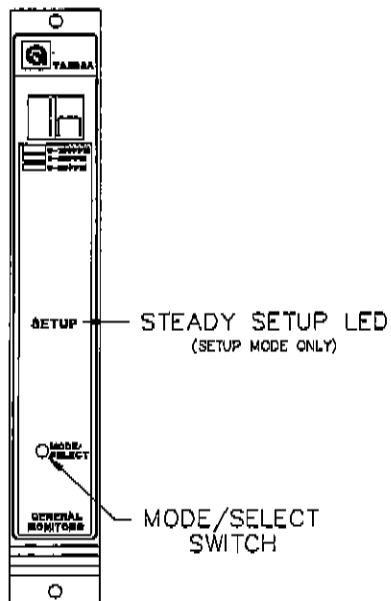

Figure 15
- This option applies to the Setup Mode only: If the password option is disabled, or after the correct password has been entered, the display will indicate **In** for five seconds (figure 15). Pressing the Mode/Select switch while **In** is displayed, will cause the unit to enter the Inhibit mode by inhibiting the alarm outputs. After the Model TA202A has entered the Inhibit mode, pressing the Mode/Select switch causes the unit to return to normal operation (see section 5.3). If it is desired to enter the Setup Mode, do not press the Mode/Select switch for the five seconds that **In** is displayed.
sulfide gas is present. If the password option is disabled, or after the correct password has been entered, the display will indicate **In** for five seconds (figure 15 on page 19). Pressing the Mode/Select switch while **In** is displayed, will cause the unit to enter the Inhibit mode by inhibiting the alarm outputs. After the Model TA202A has entered the Inhibit mode, pressing the Mode/Select switch causes the unit to return to normal operation. If it is desired to enter the Setup Mode, do not press the Mode/Select switch for the five seconds that **In** is displayed.